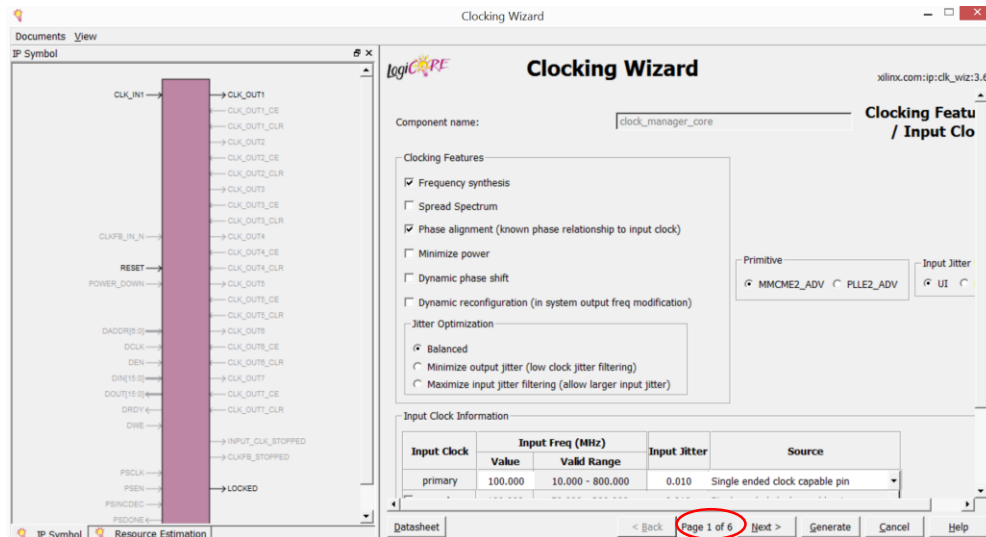

Figure 6-18
**Clocking Wizard** core includes six pages for configuration. GUI from Figure 6-18 to 6-21 shows required settings for the example's aim. Since Nexys 4 DDR board has 100 MHz oscillator, check the primary input clock value as seen in below Figure 6-18. Click Back and Next buttons to pass from page to page.